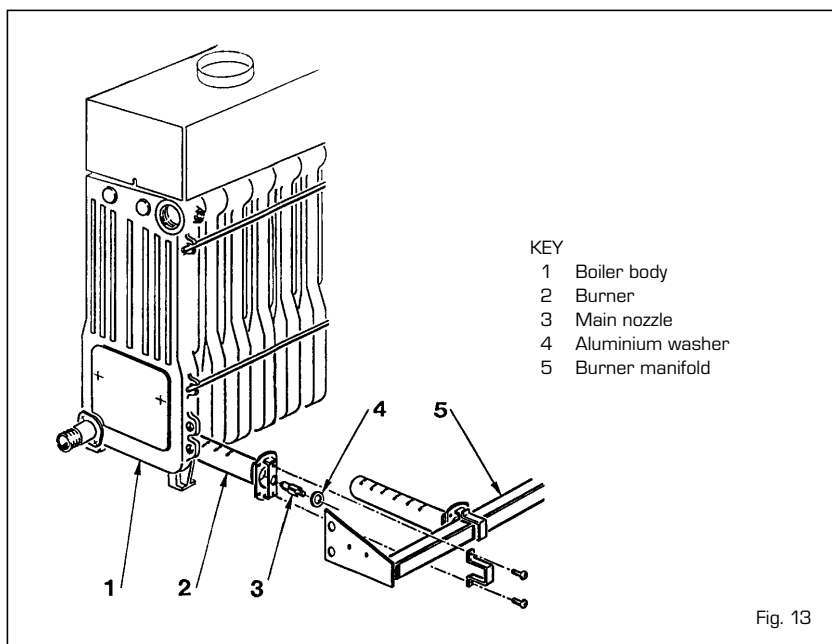

Fig. 13
- Remove the burner from the nozzle header and aim a jet of air toward the inside of the burners to remove any dust. Make sure that there are no scales on the top drilled part of the burners (fig. 13).